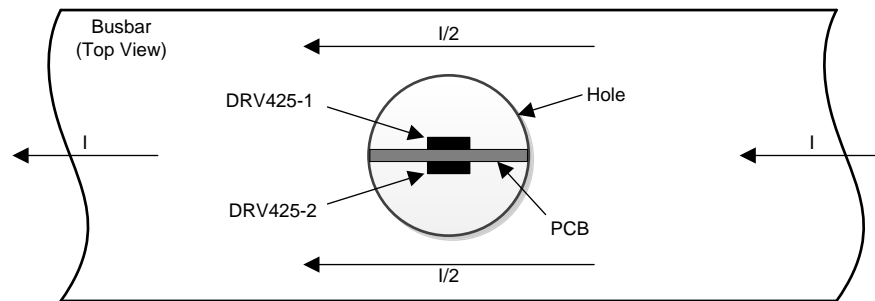
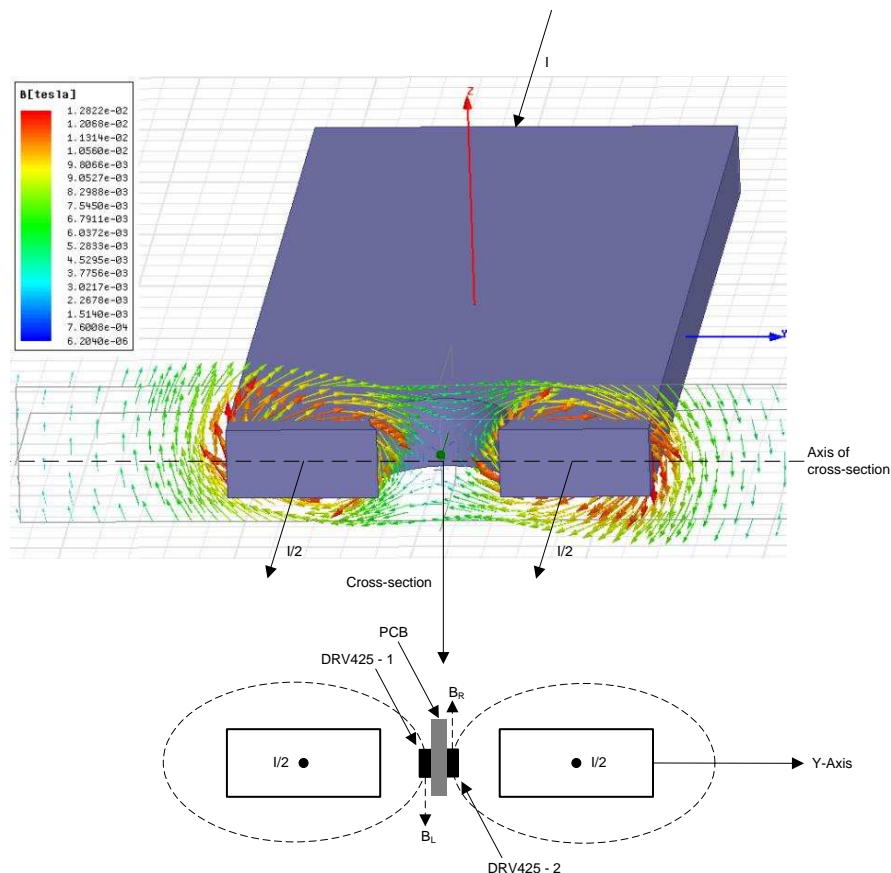

Figure 71. DRV425-Based Busbar Current Sensing
Figure 72. Magnetic Field Distribution Inside a Busbar Hole
Figure 71 shows an alternative approach with two DRV425 devices. If a hole is drilled in the middle of the busbar, the current is split in two equal parts that generate magnetic field gradients with opposite directions inside the hole. These magnetic fields are termed B_R and B_L in Figure 72. The opposite fields cancel each other out in the middle of the hole. The high sensitivity and linearity of two DRV425 devices positioned at the same distance from the middle of the hole allow the small opposite fields to be sensed and the current measured with high-accuracy levels. The differential measurement rejects outside fields that generate a common-mode error that is subtracted at the output.
2. Apply current through the busbar and move the PCB along the y-axis in the busbar hole, as shown in Figure 72. The PCB is in the center of the hole if $V_{CM} = V_{OFFSET}$.